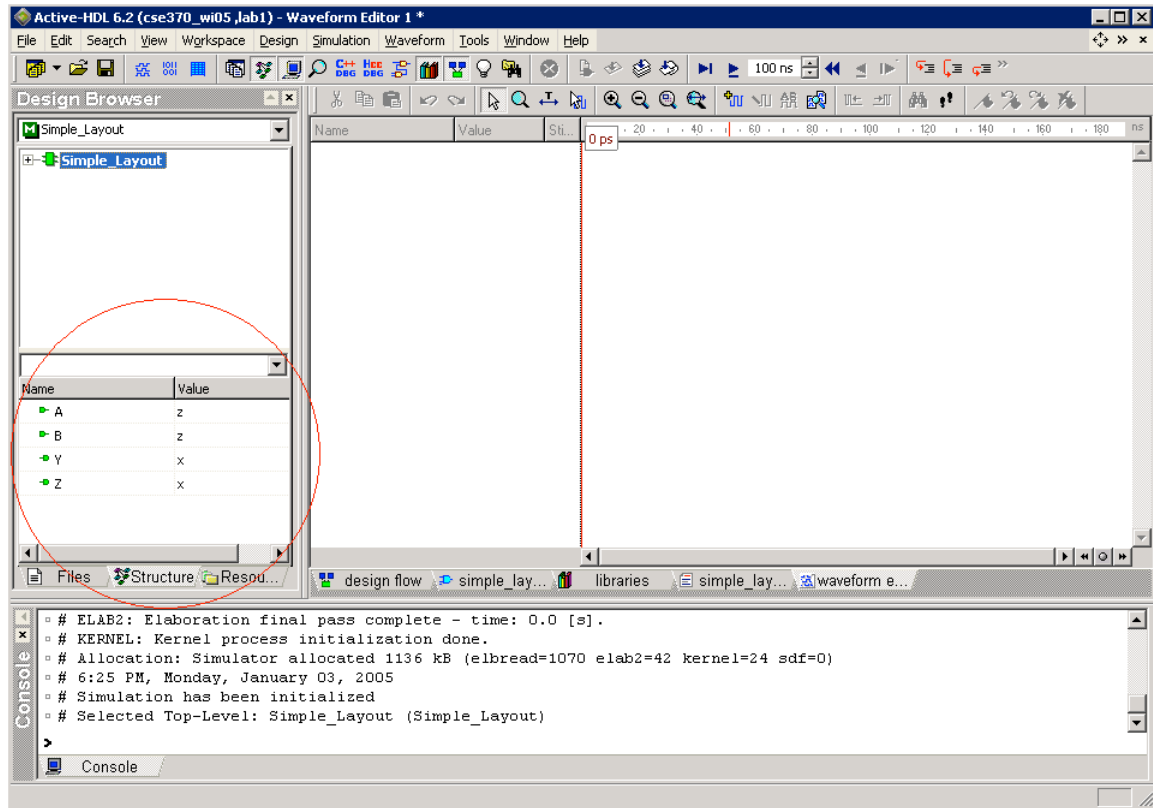

Figure 26
7. Click the file name in the top window in the Design Browser under the Structures tab. Notice in Figure 26 how the signals and wires (Nets) appear in the bottom window of the Design Browser.